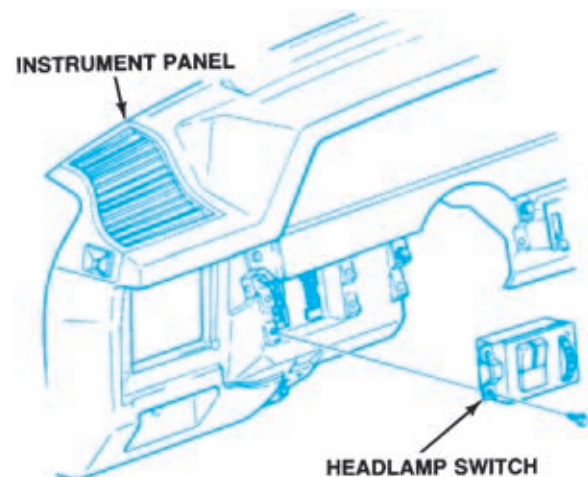

Figure 12-10. Rocker-type headlamp switches usually have a separate rotary rheostat control. (GM Service and Parts Operations)
- A rocker-type switch mounted on the instrument panel (Figure 12-10)